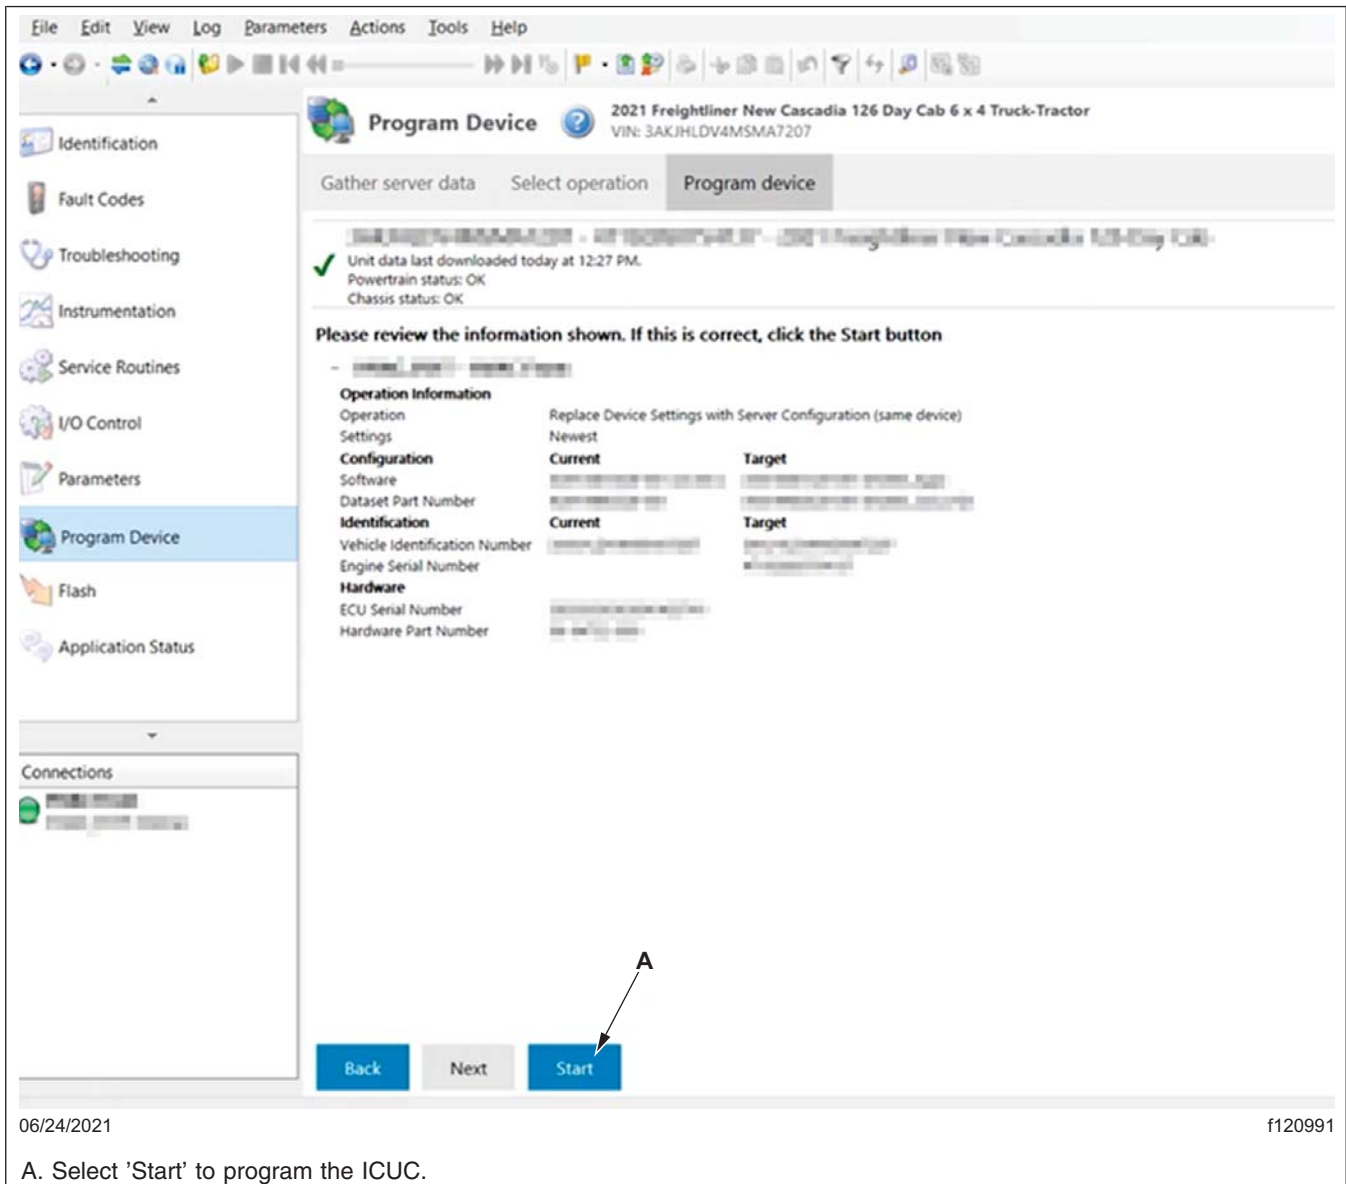

Fig. 11, Starting the Programming of the ICUC
9. Verify the VIN and hardware and software information, then select 'Start' as shown in Fig. 11 to program the ICUC.